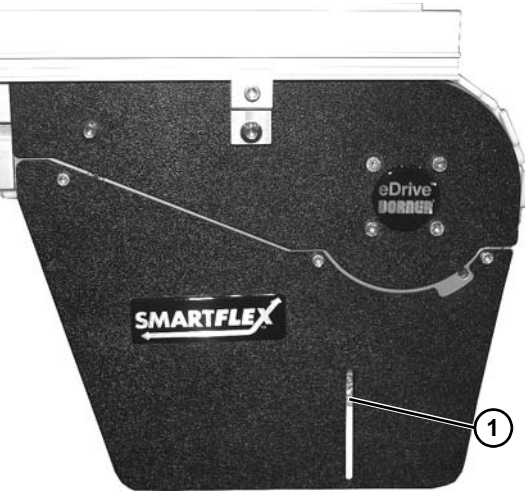

Figure 12
Before inserting belt rod to connect belt ends, be certain that the slack on belt is showing in slotted area (Figure 12, item 1) on conveyor drive end.